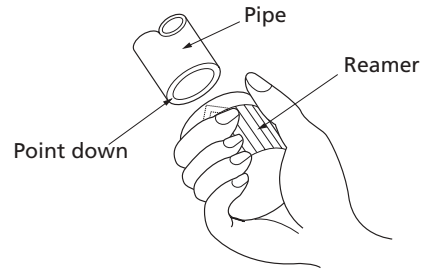

**Fig. 7.2**
1. Make sure that the pipe is cut at a perfect 90° angle. Refer to Fig. 7.2 for examples of bad cuts